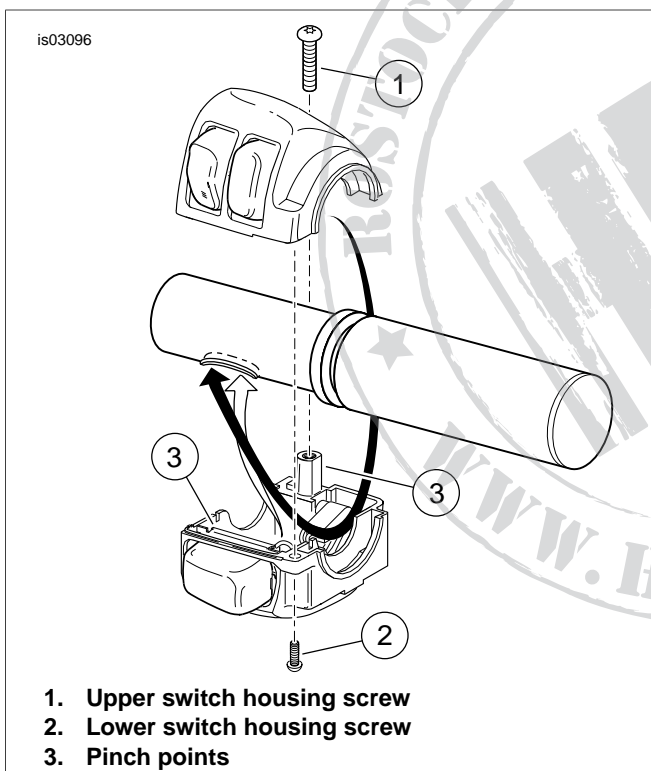

Figure 2. Switch Housing Wire Routing (Right Side Housing Shown)
See Figure 2. Route the right side switch wire bundle through the switch housing as shown. Gently feed the wire bundle into the right side switch wire hole.
- Route the left side switch wire bundle through the switch housing as shown in Figure 2 for the right side wiring. Gently feed the wire bundle into the left side switch wire hole.